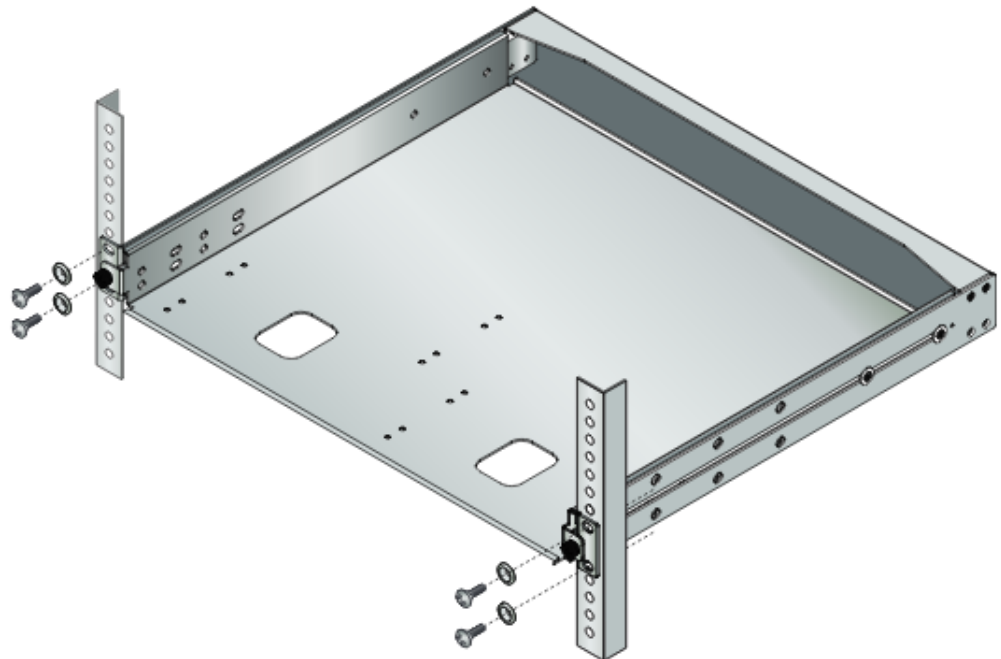

Figure 22. Installing the AT-RKMT-J15 Tray in an Equipment Rack
3. Mount the AT-RKMT-J15 tray in a 19-inch equipment rack using four equipment rack screws. See Figure 22